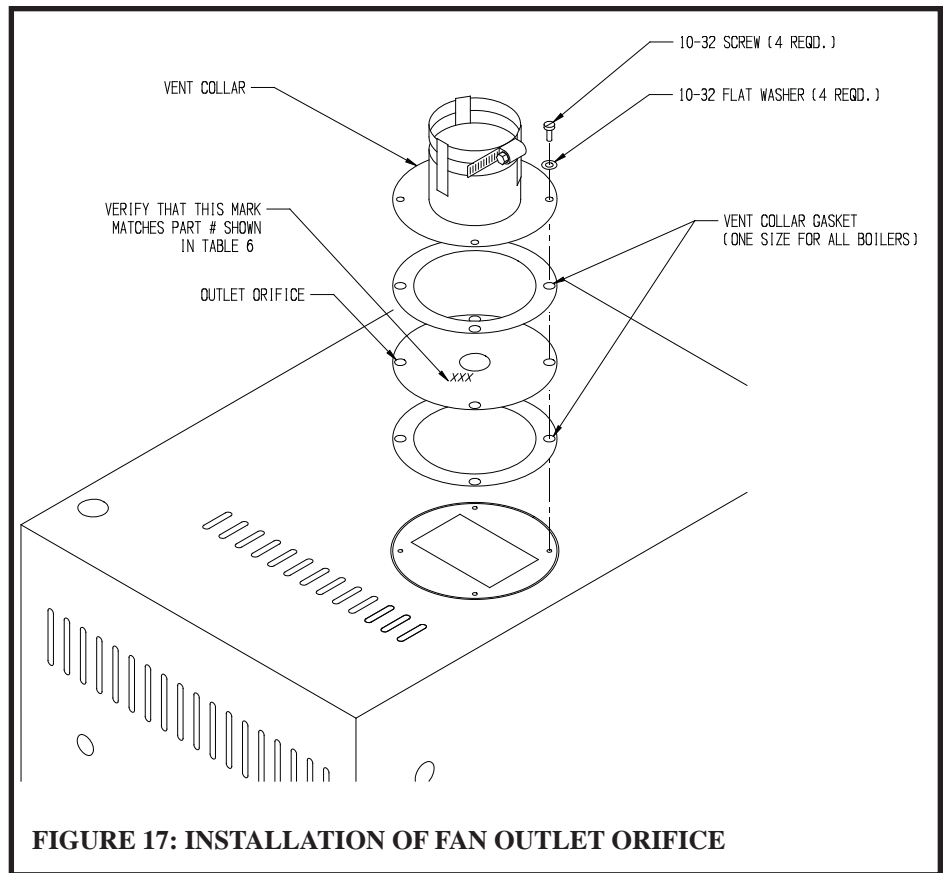

FIGURE 17: INSTALLATION OF FAN OUTLET ORIFICE
- 2) Vent Collar Installation – The vent collar is shipped loose in the accessory bag along with two collar gaskets, the outlet orifice, and four 10-32 mounting screws. Verify that the 6 digit part number model number marked on the outlet exhaust orifice matches that shown in Table 6. Mount the collar and orifice as shown in Figure 17. If desired, the first piece of exhaust pipe can be connected to the collar before mounting the collar on the boiler.